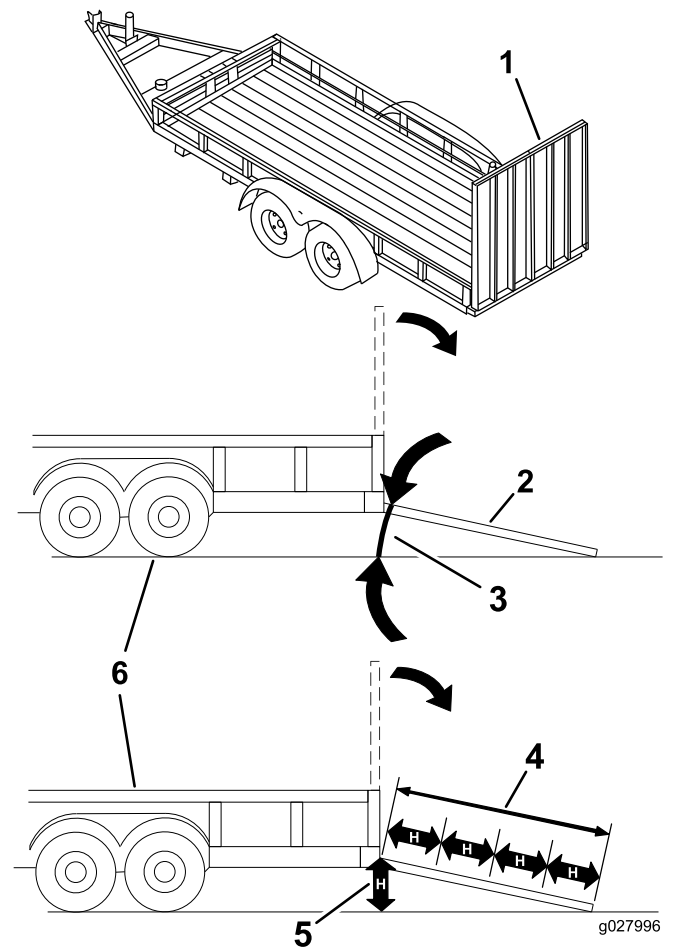

Figure 37
Loading a machine onto a trailer or truck increases the possibility of tip-over and could cause serious injury or death (Figure 37).
3. Lower the ramp, ensuring that the angle between the ramp and the ground does not exceed 15 degrees (Figure 37).
1. Lower the ramp, ensuring that the angle between the ramp and the ground does not exceed 15 degrees (Figure 37).